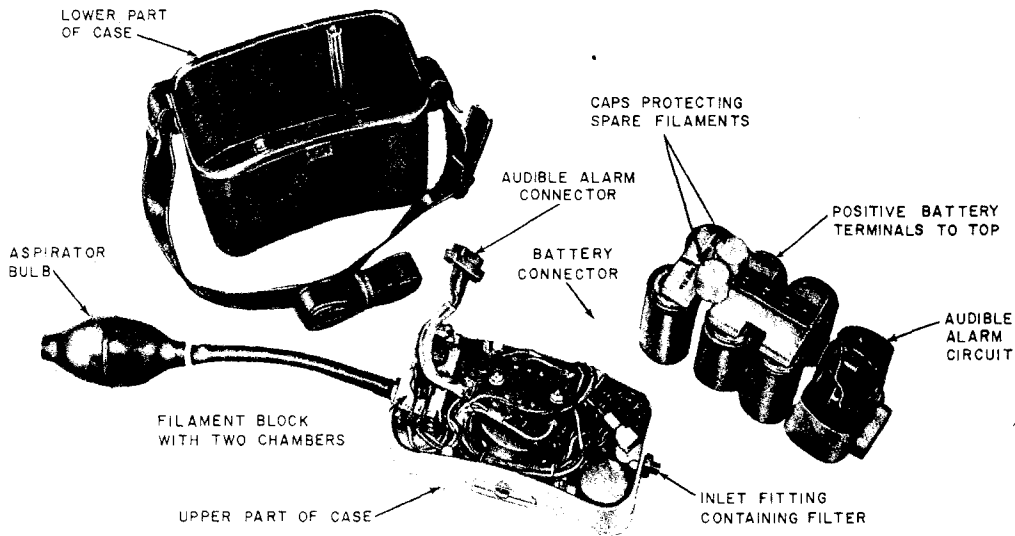

Fig. 2—Modified F Gas Indicator Containing Audible Alarm Feature (Inside View)
2.02 The electrical circuit is a balanced Wheatstone bridge in which two legs are platinum filaments. Both of these filaments are housed in a single block having two chambers as shown in Fig. 2. One chamber is completely sealed and houses the reference filament. The other chamber houses the active filament and is arranged so that air or gas can be drawn through it. When a combustible gas-air mixture is drawn through the chamber containing the active filament, the mixture ignites on the surface of the active filament